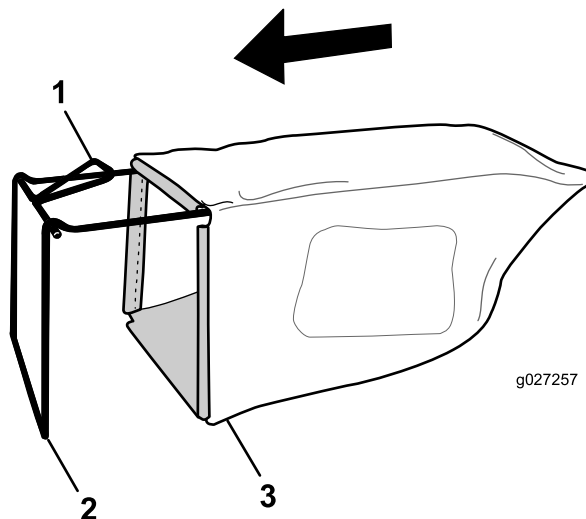

Figure 7
1. Slip the grass bag over the frame as shown in Figure 7.
**Note:** Do not slip the bag over the handle (Figure 7).